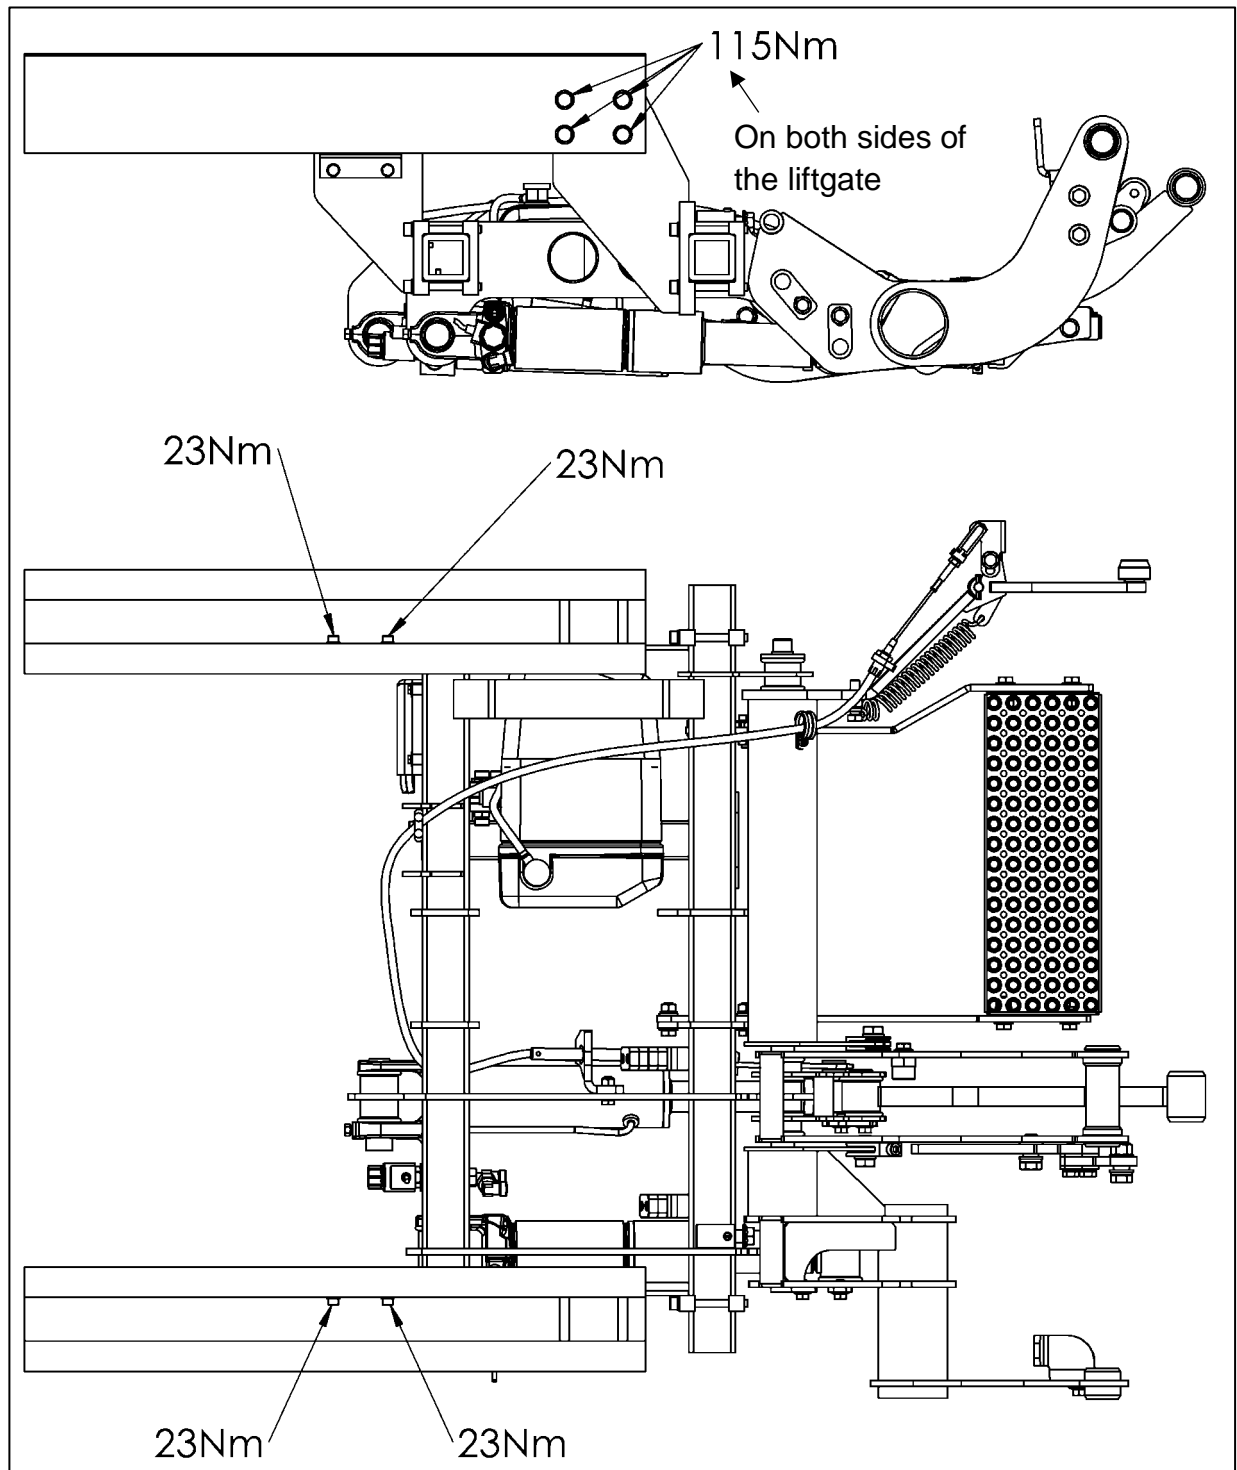

Fig. 29
- Secure the lifting gear (with adapters) to the vehicle and tighten to a torque of **115 Nm** in the rear and **23 Nm** in front (see Fig. 29).